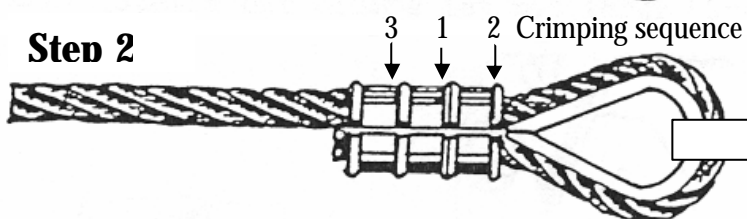

Fig. 3.13.2
1. Slide the 1.6mm (0.06") steel cable no. 60000850 for adjusting the pedal length through the locking hooks on the pedal slide (see figure 3.13.1.) and crimp it with Nicropress sleeve no. 53410281 and thimble no. 53400200 as shown in figure 3.13.2. Check the correct fit of the crimping sleeve with a suitable gauge as shown in figure 3.13.3.
18. Pass the control cables through the empty tube in the fuselage and through the S-shaped tube at the pedals. Crimp the cables as shown in figure 3.13.2, and check the crimping with the corresponding gauge.